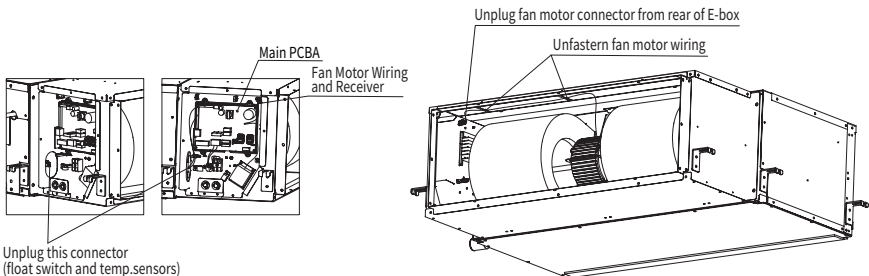

Fig.4.3
(2) Unplug the float switch, temperature sensor. After removing the insulation tape (store for reuse), unplug fan motor connectors as below, and unfasten fan motor wiring (Fig.4.3).